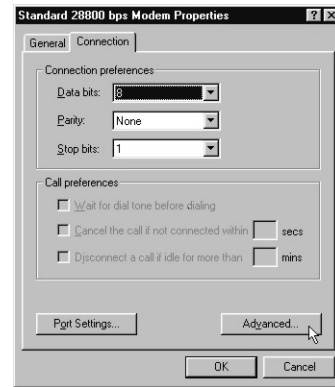

Figure 12 - Connection Properties
10. From the “Standard 28800 bps Modem Properties” select the “Connection” tab, then click on ADVANCED. (Fig. 12)